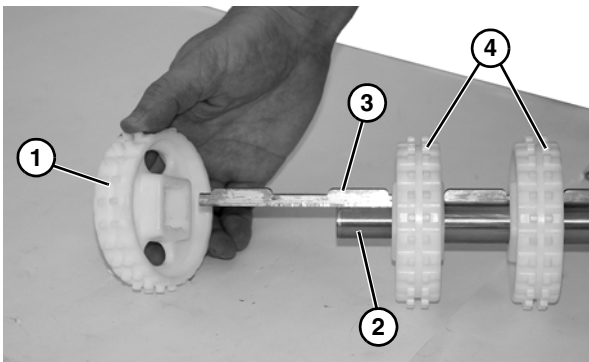

Figure 60
19. Slide entire sprocket assembly slightly outward, and remove the first sprocket (**Figure 60, item 1**) off the drive spindle (**Figure 60, item 2**) and alignment bar (**Figure 60, item 3**).
20. Remove remaining sprockets (**Figure 60, item 4**) off the alignment bar as you slide entire assembly off the drive spindle.
22. Install second sprocket and subsequent sprockets (**Figure 60, item 4**) one by one, while sliding entire assembly onto alignment bar (**Figure 60, item 3**) and spindle (**Figure 60, item 2**).